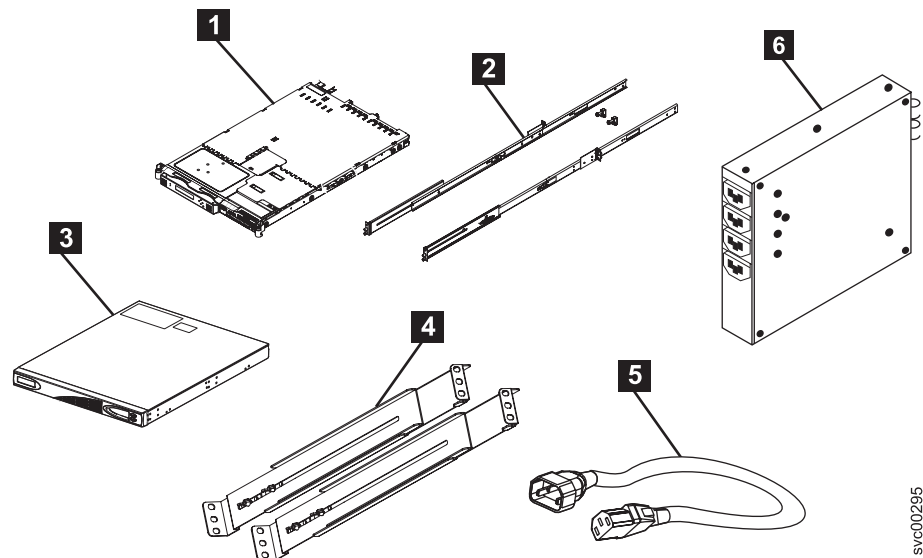

Figure 20. Parts provided for SAN Volume Controller hardware installation in a rack
2. Check all the parts and quantities against the parts that are shown in Figure 20 to make sure that everything has been delivered. If any piece is missing, contact the appropriate IBM representative.